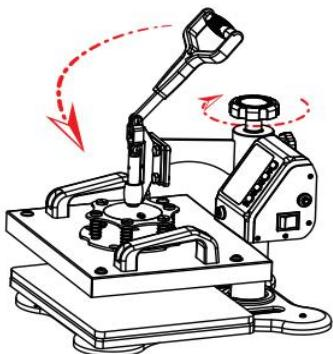

Fig 8
7. Rotate the handwheel and try to press the handle several times until it is adjusted to the appropriate pressure(as shown in figure8).